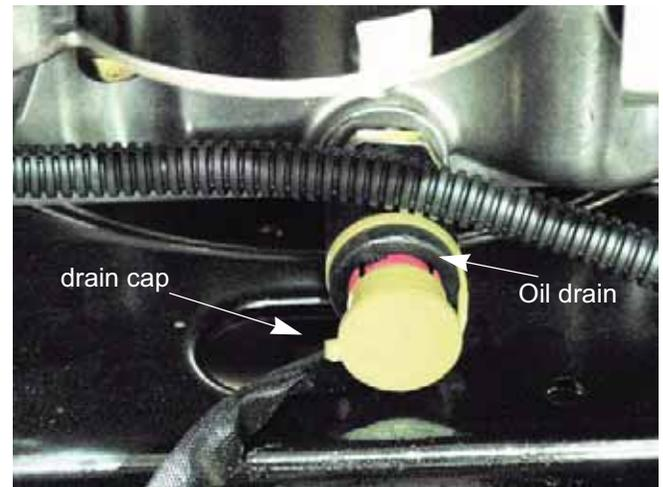

Figure 9.6
1. Remove the cap from the oil drain. See Figure 9.6.